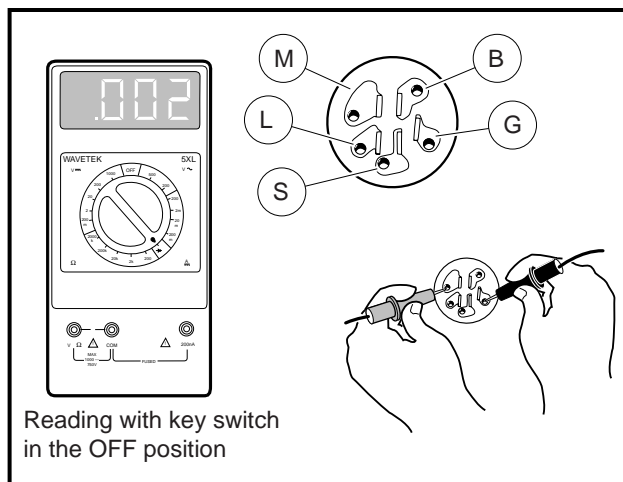

Figure 11-43 Test Key Switch – Engine Kill Circuit
4. Place the red (+) probe on the (M) terminal and the black (–) probe on the (G) terminal. With the key switch OFF, the reading should be continuity. With the key switch turned ON, the reading should be **NO** continuity. If either reading is incorrect, replace the key switch (**Figure 11-43, Page 11-36**).